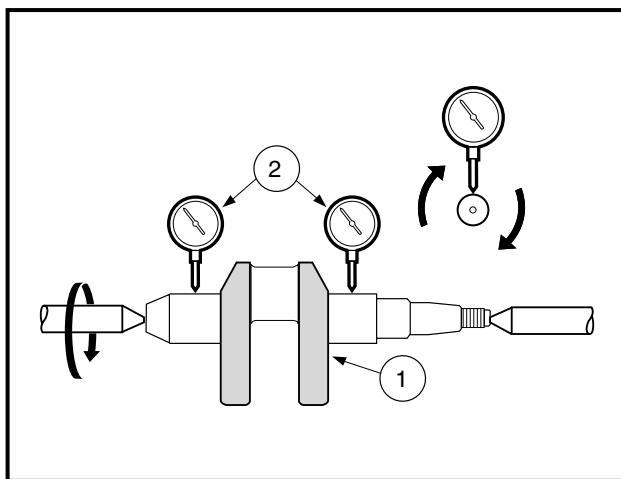

Figure 13-85 Check Crankshaft Alignment
- 8.2. Turn crankshaft (1) slowly and measure total indicated run-out at the location shown (**Figure 13-85, Page 13-40**).